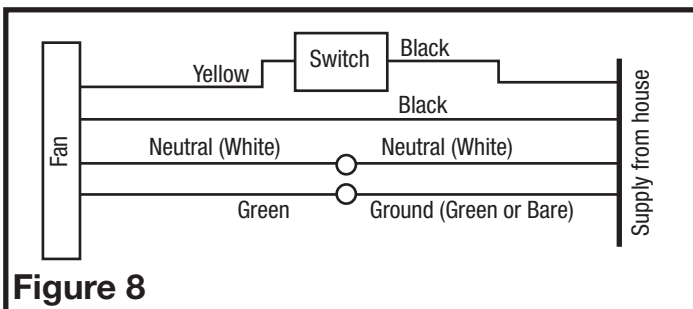

Figure 8
- 2b. From where you have chosen to access the fan's junction box, connect the white wire from the house to the white wire from the fan's receptacle. Connect the yellow wire from the fan to the wall switch. Connect the black wire from the house to the black wire from the fan's receptacle. Connect the ground wire from the house to the green wire from the fan housing (**Figure 8**). Use approved methods for all connections.